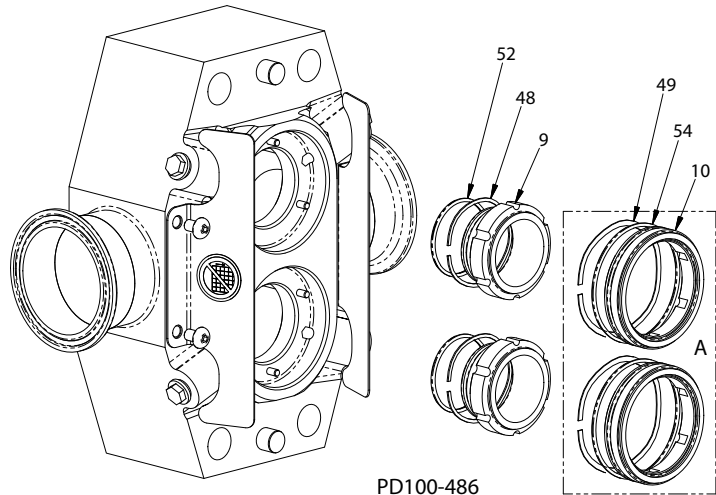

Figure 35 - Remove Seals
3. Remove the inner seal (Figure 35, item 9) and wave spring (item 48). Remove the o-ring (item 52) from the inner seal and inspect it. Replace as necessary.
4. On pumps equipped with double mechanical seals (Figure 35, inset A), remove the outer seal (item 10) and wave spring (item 49). Remove the o-ring (item 54) from the outer seal and inspect it. Replace as necessary.